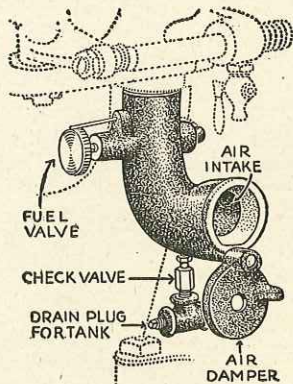

Figure 3.
**Third.** Open the fuel valve (Figure 3, page 10) one-half turn on  $1\frac{1}{2}$  H. P. and from one to two turns on larger sizes.
The mixing valve (Figure 3) is of the suction feed type, gasoline being drawn from the tank in the base by the suction of the piston. The air and gasoline are mixed in this valve to form the explosive gas.
If it is ever necessary to take the mixing valve and feed pipe off the engine, be very careful not to lose the valve out of the check valve, because if this valve is not in place your engine will not get any gasoline. To drain gasoline from tank remove drain plug. (See Figure 3.)